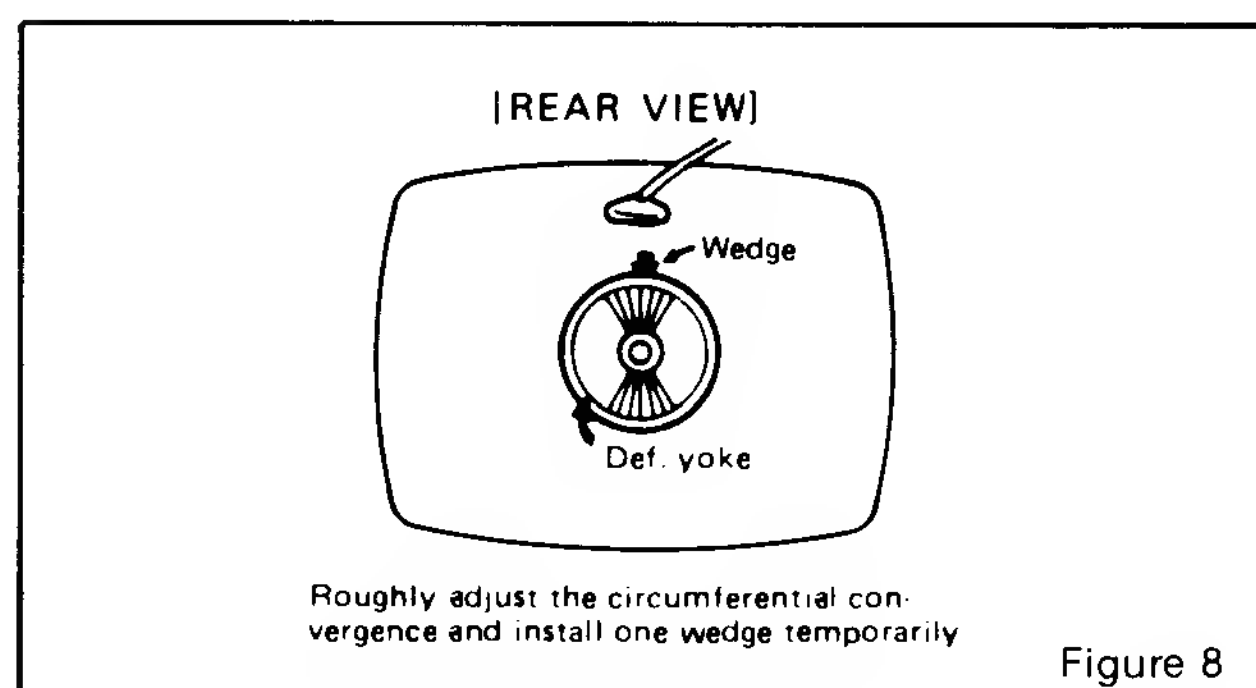

Figure 8
2.3 Adjust convergence around the edges of the picture tube by tilting the yoke up-down and left-right, and temporarily install one wedge at the top of the yoke or in a more optimum position. (Figures 8, 9, 10)